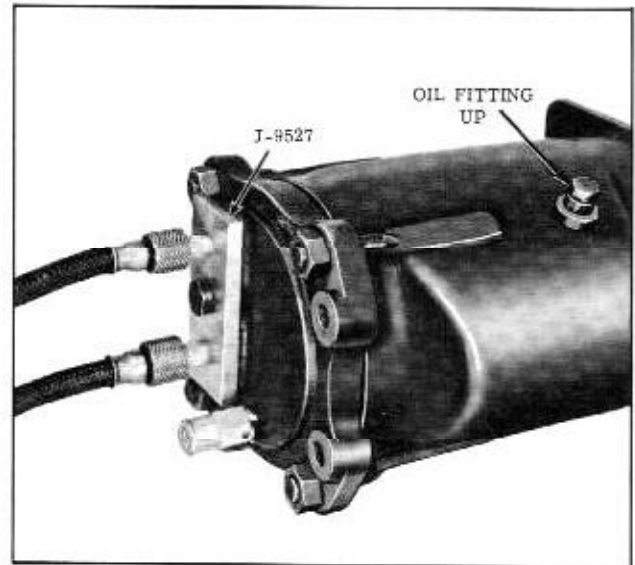

Fig. 14-38 Leak Testing Compressor
6. With Tool J-9527 installed on compressor (Fig. 14-38), leak test the compressor as follows: